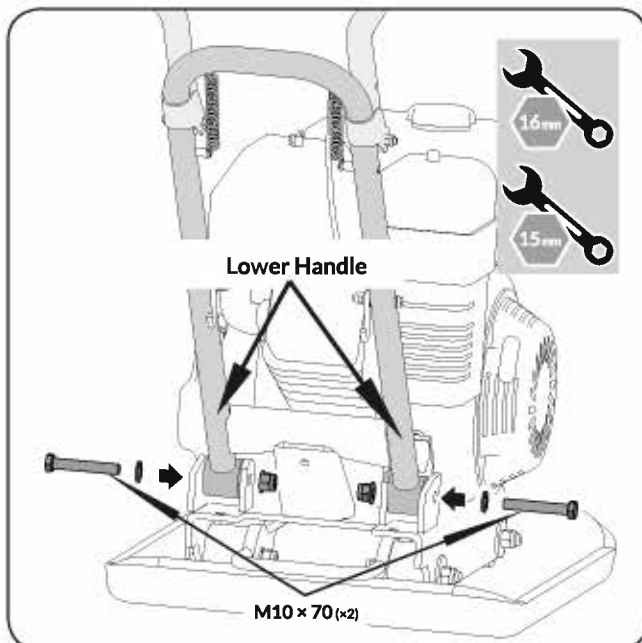

Figure 2b
2. Mount the handle as shown. Slide the handle ends into the engine deck slots. (See **Figure 2b**). Secure with the flat washers, nuts and bolts found in packet #1 of the hardware kit.